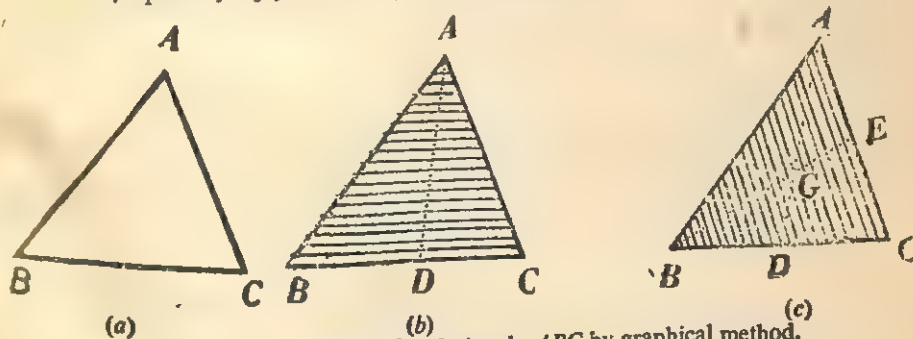

Fig. 2.6. Locating C.G. of triangle  $ABC$  by graphical method.
Centre of gravity of plane figures like a lamina may be located by this method provided the edges of the plane body are straight. A method for locating the C.G. of a triangular sheet [Fig. 2.6(a)] is discussed below.
**Procedure.** (1) Draw a series of lines parallel to  $BC$  and equally spaced, e.g., 1 mm. apart as shown in Fig. 2.6(b)
(2) Now draw a similar set of lines parallel to  $AC$  as shown in Fig. 2.6(c). The C.G. of the triangle lies on  $BE$  where  $AE=EC$ . Thus the C.G. is at the point where  $AD$  and  $BE$  meet.